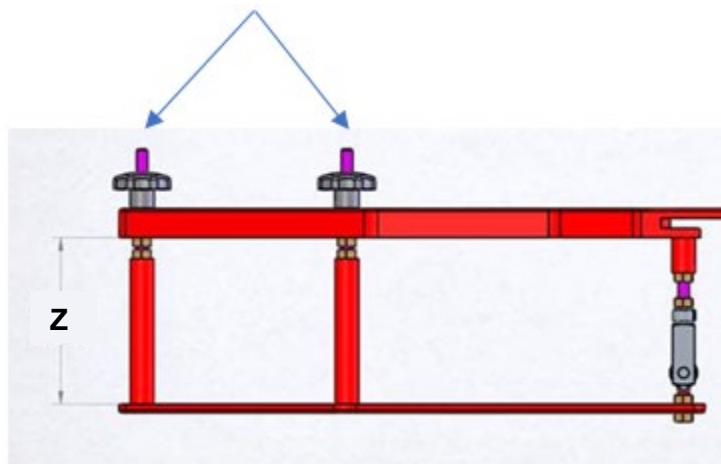

Figure 1-4. Water Tank Adjustment
- a. Verify the distance as shown in drawing below, making sure Z is close to 174 ± 5 mm (see Figure 1-4). If not, adjust Z by turning the nuts.